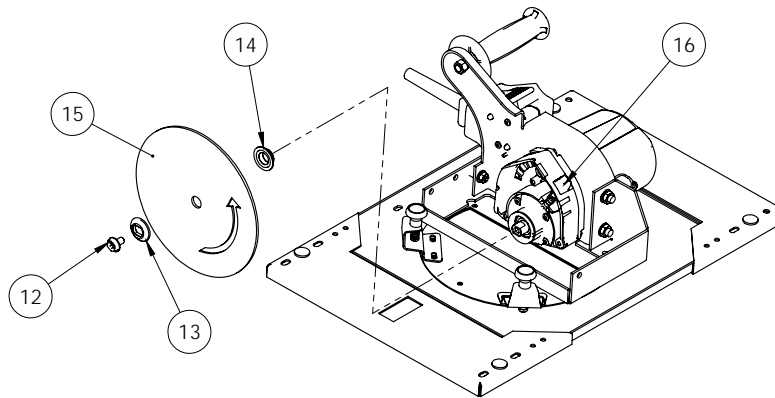

Figure 26: Installing a Saw Blade
3. To keep the spindle from turning while you loosen the arbor bolt (Fig. 26, #12) push the spindle lock on top of the motor housing Fig. 30. Then tighten the carriage lock.
4. Use the hex wrench provided with the saw to loosen and remove the bolt (Fig. 26, #12) counterclockwise while holding the spindle lock.
5. Remove the outer blade flange (Fig. 26, #13), blade (#15), and inner blade flange (#14).